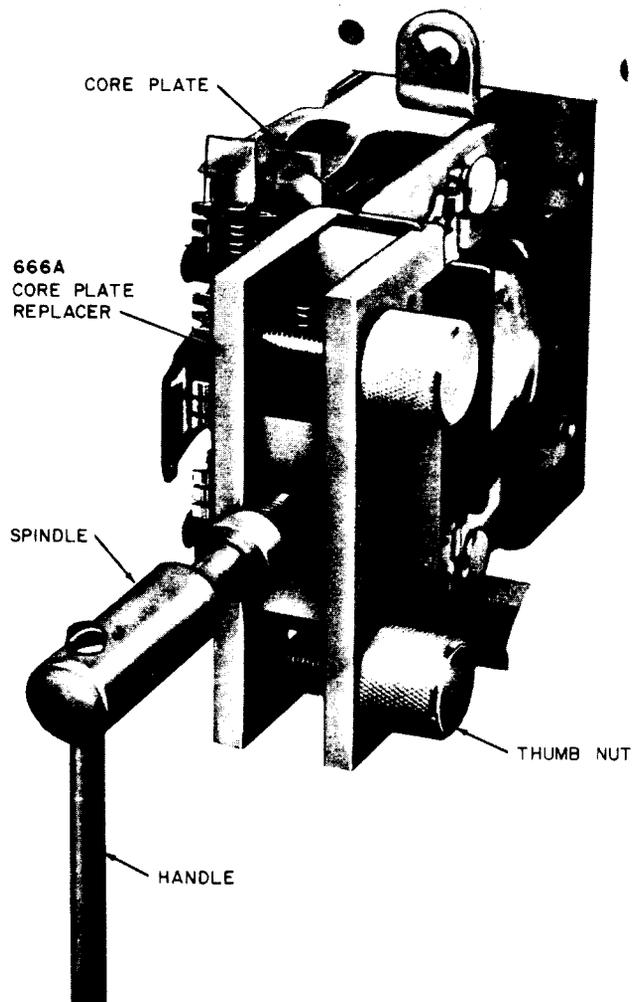

**Fig. 4—286-Type Relay—Positioning 699A Contact Separator**
**3.06** Before proceeding with removal of parts, insert a 669A contact separator between the fixed and movable contact springs in both vertical rows as follows. Hold the contact separator with the hook portion at the left, as shown in Fig. 4, and carefully insert the tip behind the card and between the fixed and movable contact springs in one of the vertical rows. Then place the end of the KS-6320 orange stick so it bears lightly against both the right edge of the separator and the adjacent edge of the card to guide the separator during insertion. Slowly insert the separator while maintaining light pressure on the orange stick. Keep the separator vertical so the springs will remain in their proper horizontal positions and move the separator downward until the hook portion engages the upper fixed contact springs. Similarly, insert another contact separator between the fixed and movable contact springs in the other vertical row. Figure 4 shows one contact separator fully inserted and the other contact separator partially inserted.
the armature under these springs. Insert the armature under the springs with the armature stop plate toward the core. Then position the armature so the U-shaped portion of each hinge spring engages its associated notch in the armature, as shown in Fig. 4. Make sure both hinge springs fully engage the armature by pushing against the U-shaped portion with the orange stick. Position the card so the card lugs engage the associated slots in the armature.
3.20 Before proceeding with the removal of parts, insert a 669A contact separator between the fixed and movable contact springs in both vertical rows of the relay unit to be worked on as follows. Hold the contact separator with the hook portion at the left and carefully insert the tip behind the card and between the fixed and movable contact springs in one of the vertical rows in a manner similar to that shown in Fig. 4. Then place the end of the KS-6320 orange stick so it bears lightly against both the right edge of the separator and the adjacent edge of the card to guide the separator during insertion. Slowly insert the separator while maintaining light pressure on the orange stick. When working on the top unit, insert the separator from the top and, when working on the bottom unit, insert the separator from the bottom. Keep the separator vertical so the springs will remain in their proper horizontal positions and move it downward or upward, as required, until
so the U-shaped portion of each hinge spring engages its associated notch in the armature, as shown in Fig. 4. Make sure both hinge springs fully engage the armature by pushing against the U-shaped portion with the orange stick. Position the card so the card lugs engage the associated slots in the armature.